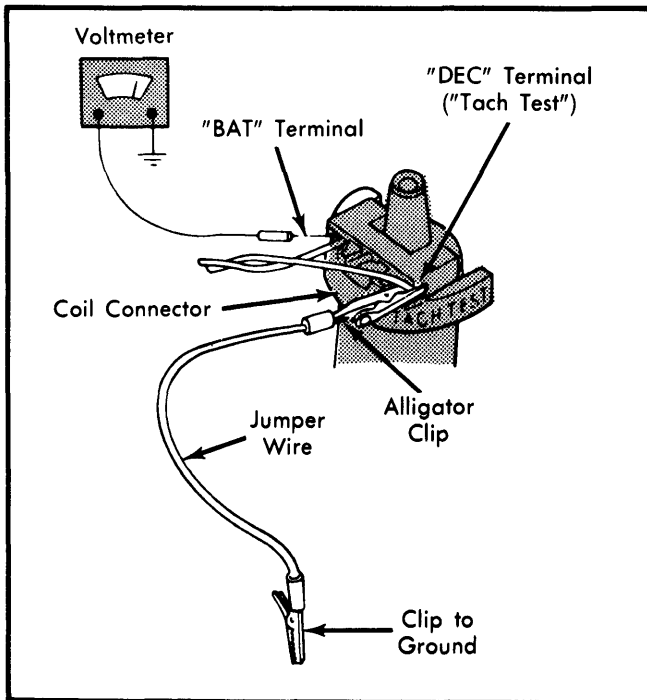

Fig. 6 Grounding "Tach Test" Terminal In Coil Primary Circuit Check
6) If voltage in step 4) was battery voltage, make sure coil connector is fully engaged on primary terminals of ignition coil. Ground the "Tach Test" terminal of the coil. See Fig. 6. Connect voltmeter positive lead to coil's positive ("BAT") terminal and negative lead to ground.
12) If no sparks occurred with substitute coil, connect original ignition coil and be sure connector is fully engaged over terminals. Disconnect control module 4-wire connector and turn ignition switch to "RUN" position. Connect voltmeter positive lead to ignition coil connector's "Tach Test" terminal and negative lead to ground. See Fig. 6.